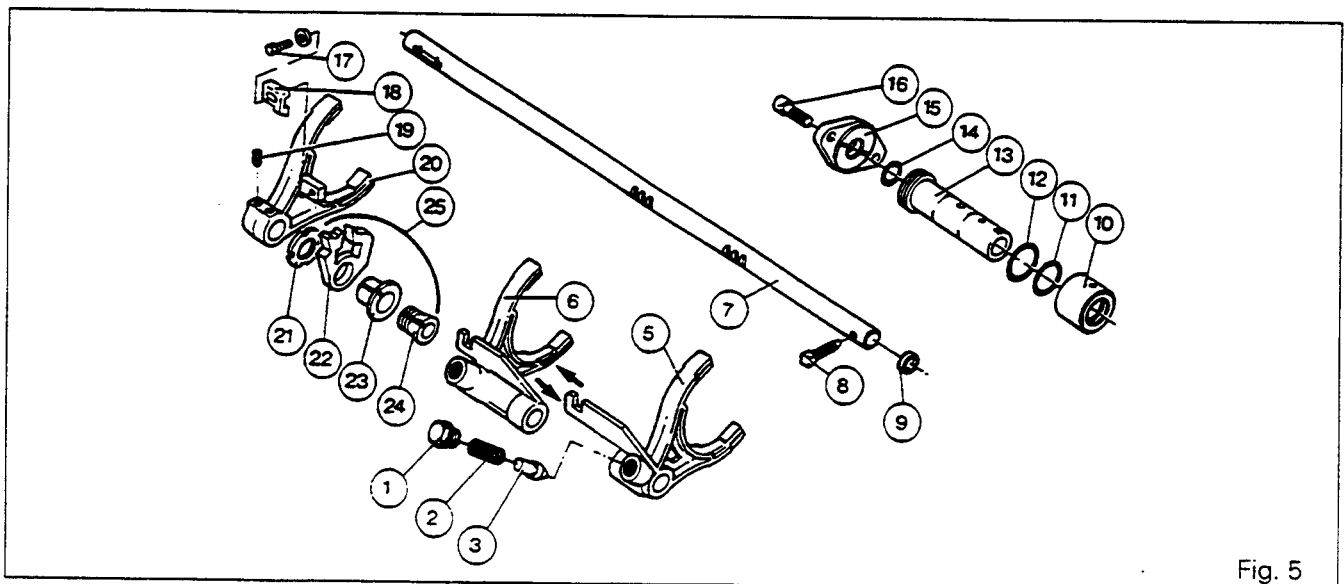

Fig. 5
4. Remove the plugs (1), springs (2) and locking plungers (3) (See Fig. 5).